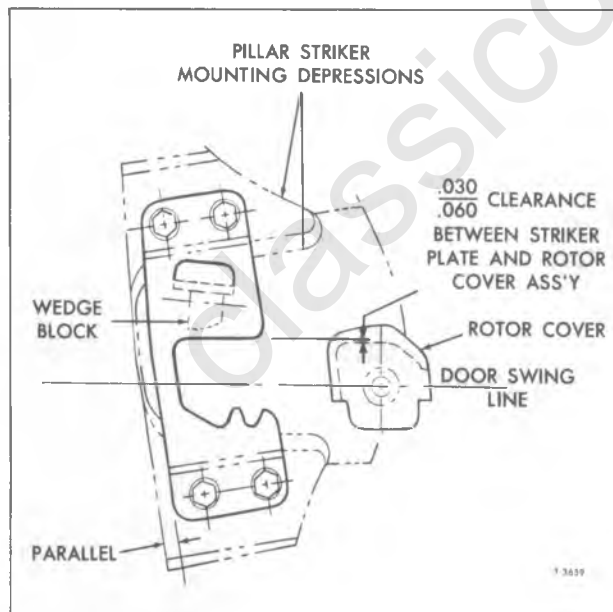

Figure 17—Lock Rotor Cover Assembly and Striker Plate
2. Vertical slots are provided in the body lock pillar to vertically position the striker so that the lock rotor and rotor cover assembly swing smoothly into the opening between the teeth and striker wedge block (fig. 17).